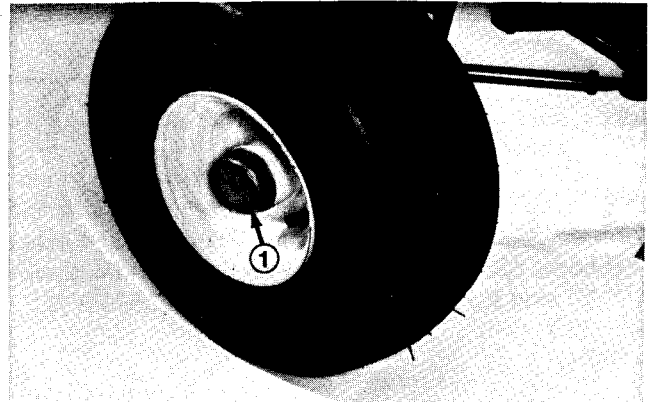

Figure 1
2. Remove the dust cap from the end of the wheel spindle (Fig. 1).
2. Remove dust cap from end of wheel spindle. Also remove cotter pin retaining slotted nut in place (Fig. 1).
5. Put a coating of grease on the inside of the dust cap. Install dust cap on the end of the wheel spindle (Fig. 1).